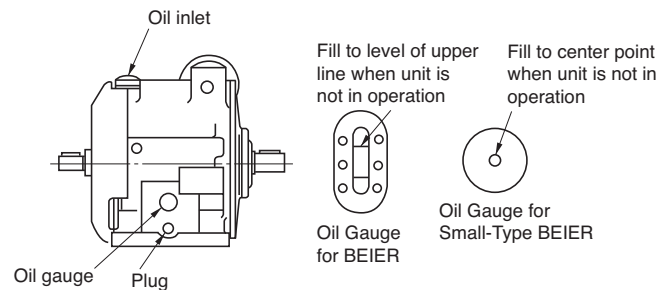

Fig.13
**Oil supply for Horizontal Type** (Refer to Fig.13)
- ① Remove the oil filler plug.
- ② Fill oil through oil filler port while checking oil level by the oil gauge.
- ③ Fill oil in place on the oil gauge.
- ④ Replace the oil filler plug.
Remove the drain plug shown in Fig.13, 14 to discharge oil